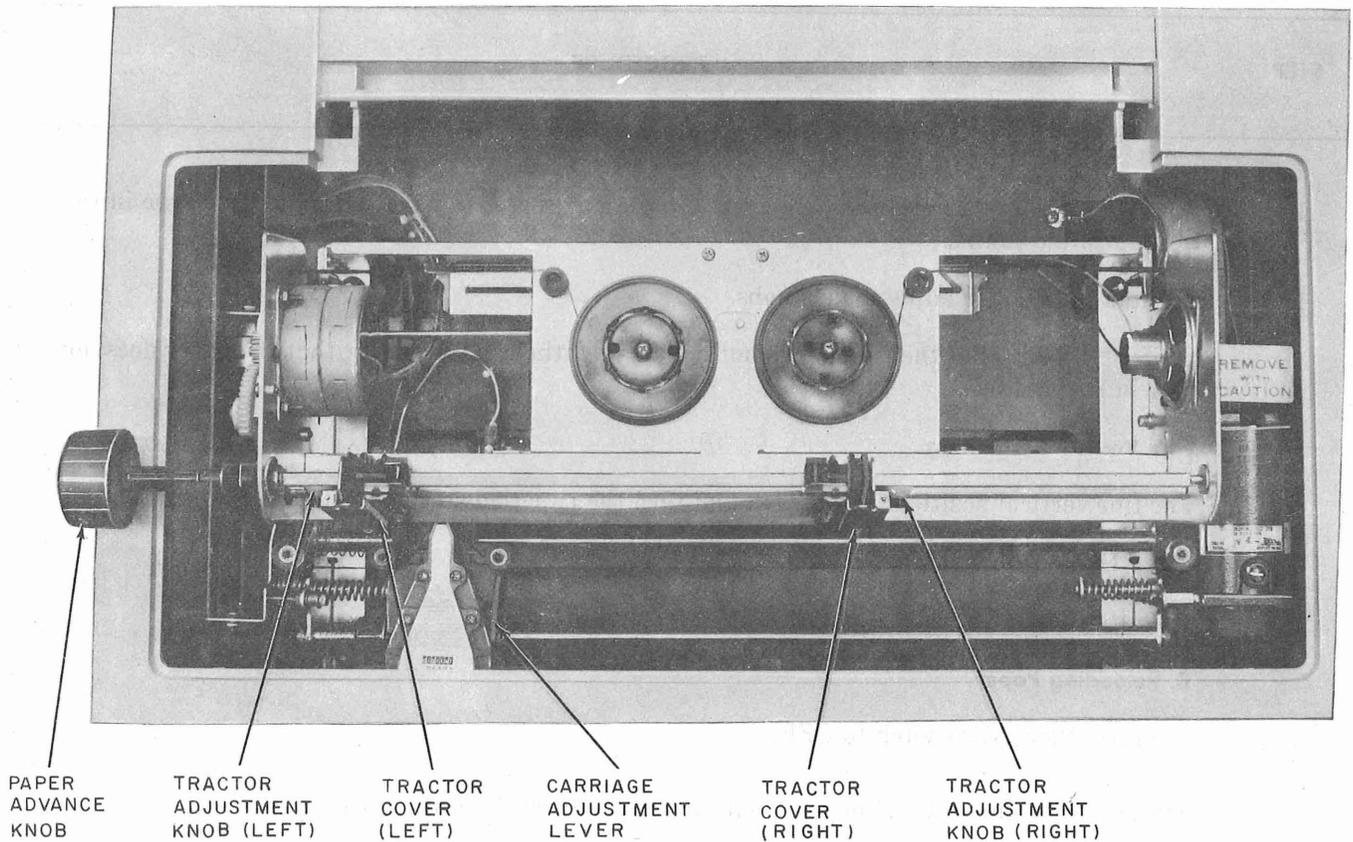

Fig. 11—LA36 DECwriter II Terminal Impression and Position Adjustments
5	Open the left tractor cover (Fig. 11) so that the tractor pins are exposed.
6	Move the carriage adjustment lever (Fig. 11) to the highest number.
9	Loosen the tractor adjustment knob (Fig. 11) on the right tractor about 1/2 turn.
10	Open the right tractor cover (Fig. 11) and slide the tractor to a position where the holes on the right paper margin align directly over the tractor pins.
- 14 Turn the paper advance knob (Fig. 11) counterclockwise while moving the carriage adjustment lever forward one notch at a time until the paper smudges. Move the lever back one notch at a time until the paper no longer smudges.